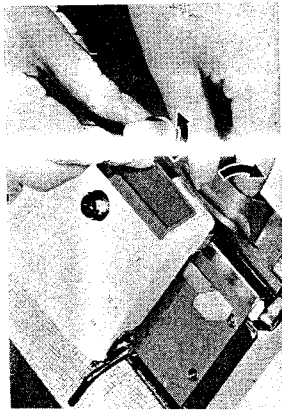

Fig. 12
- f. Remove the carriage lock. Loosen the plastic thumb screw of the carriage and remove the carriage lock. This will free the carriage, which can then be made to slide along or off the needle bed. (See Fig. 12)